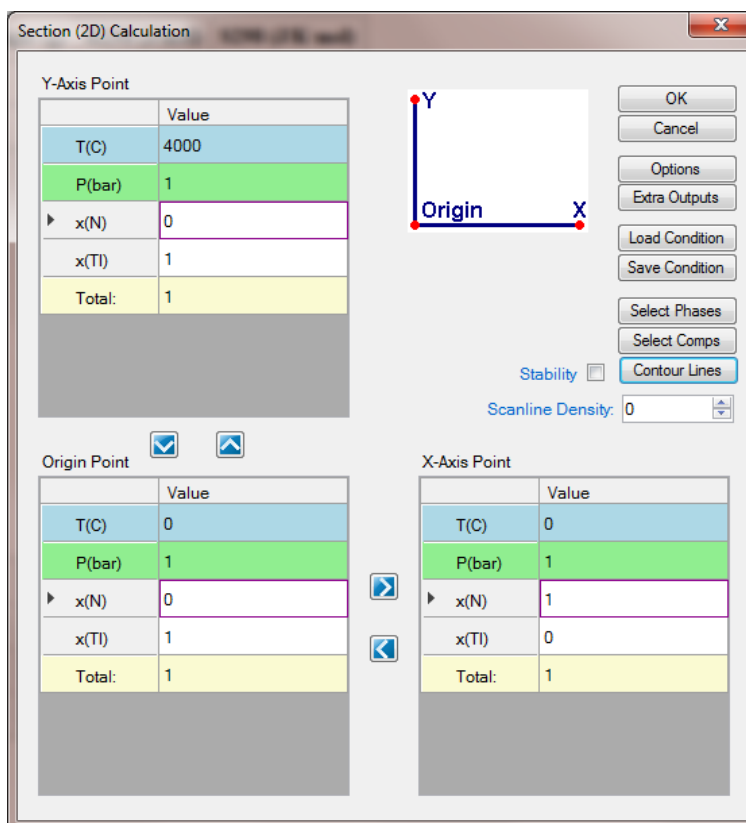

Figure 1.16.1: Setup calculation for Ti-N binary phase diagram, then click Contour Lines
- First set up the calculation condition as shown in Figure 1.16.1 for calculating Ti-N binary phase diagram, then click "Contour Lines" to open the contour line dialog as shown in Figure 1.16.2;